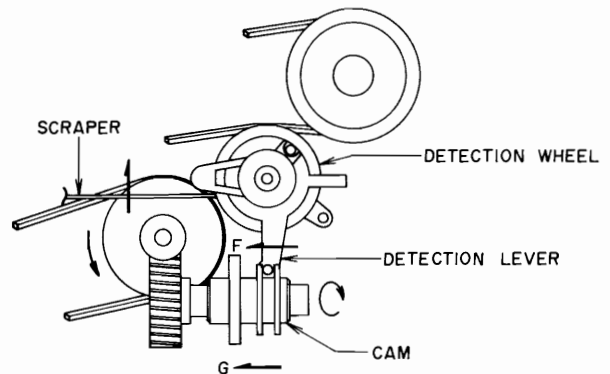

Fig. 8
- 1) When Pause key is depressed in the Play mode, tape transport stops, and the detection wheel ceases rotating. This sets the tape deck in the same condition as when the end of the tape is reached, so that the auto stop mechanism is actuated. However, depressing Pause key causes the scraper to push the detection lever in the direction of G as illustrated in Fig. 8. As a result, the cam is constantly pushed in the direction of G, permitting the auto stop mechanism to function in the same way as in the same way as in the Play or Fast Forward mode and thus preventing the auto stop operation from being executed.